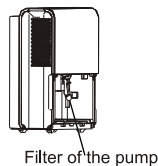

Fig.12
-Remove the bucket from the unit, take down the pump and clean the filter of the pump (See Fig.12).